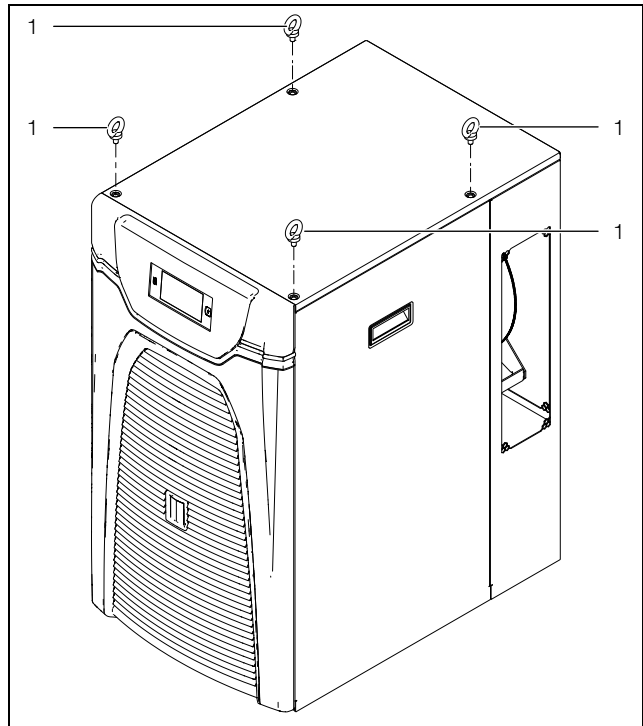

Fig. 24: Eyebolt for transportation (3320200)
- Only transport the chiller on the pallet supplied with the chiller or with the eyebolt provided (fig. 24, item 1).